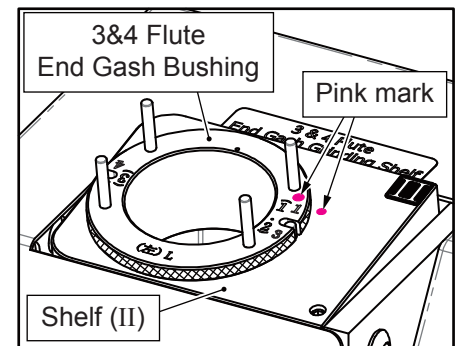

Fig. 9-2
### 2. End Gash Grinding Shelf (II) (Fig. 9-2)